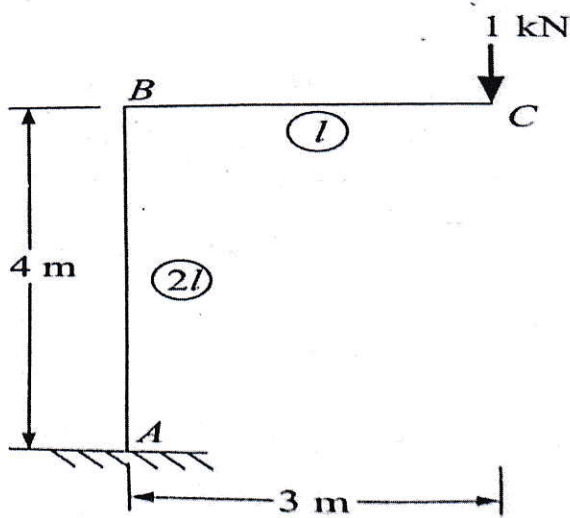

Fig. 5
- b) Determine the vertical deflection of point C in the frame shown in figure 5. Given $E = 200 \text{ KN/mm}^2$ and $I = 30 \times 10^6 \text{ mm}^4$. Use strain energy method. 8